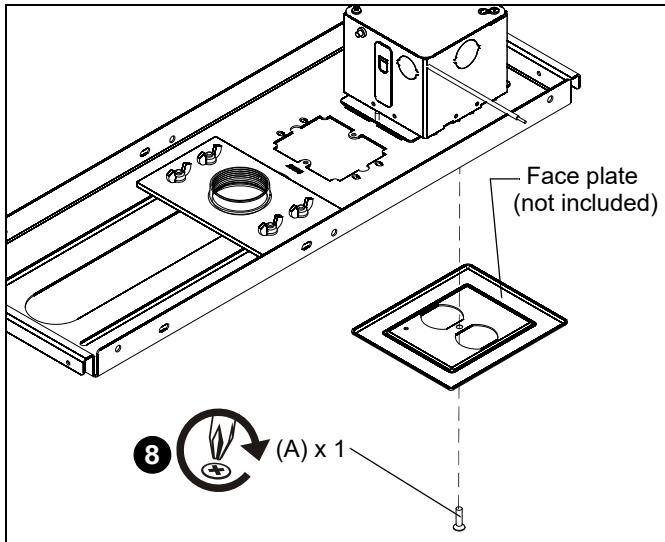

Figure 5
- Attach face plate (not included) using one 6-32 x 1/2" Phillips flat head screw (A) after the CMS440N has been installed. (See Figure 5)